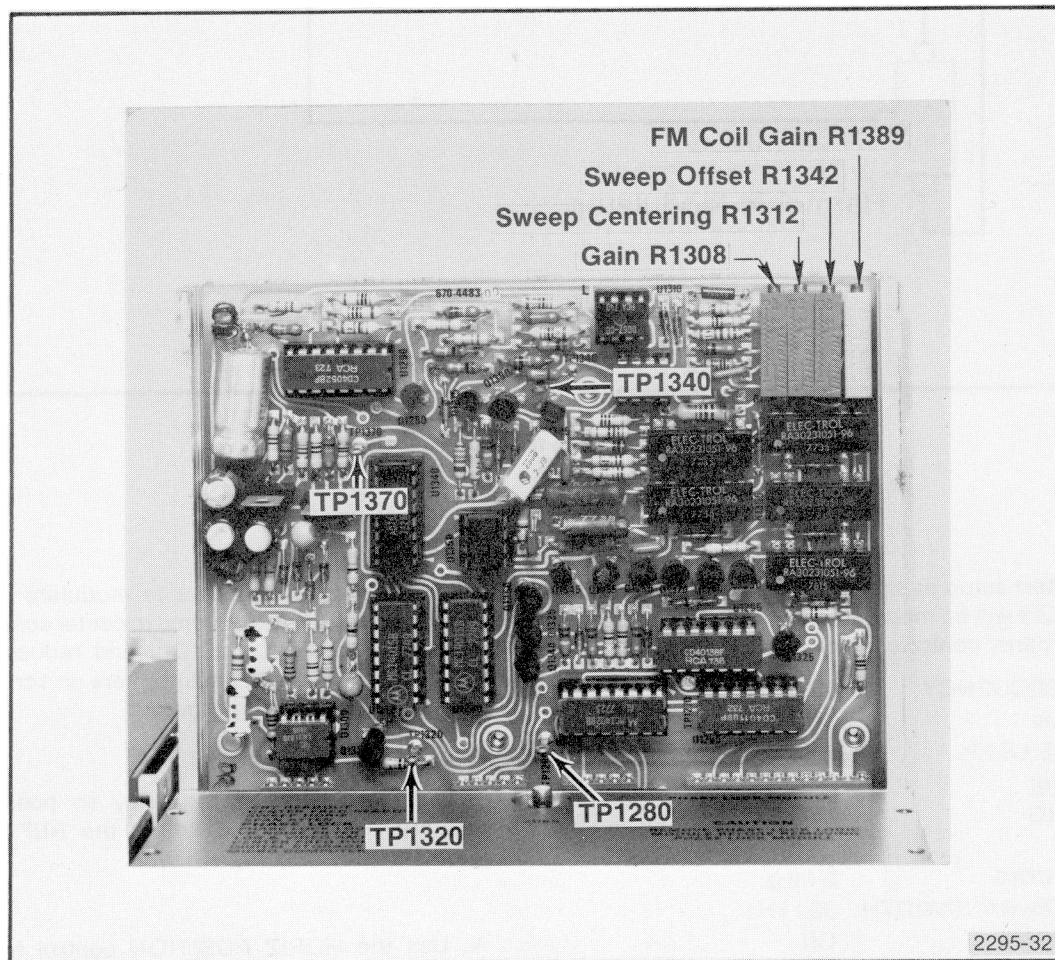
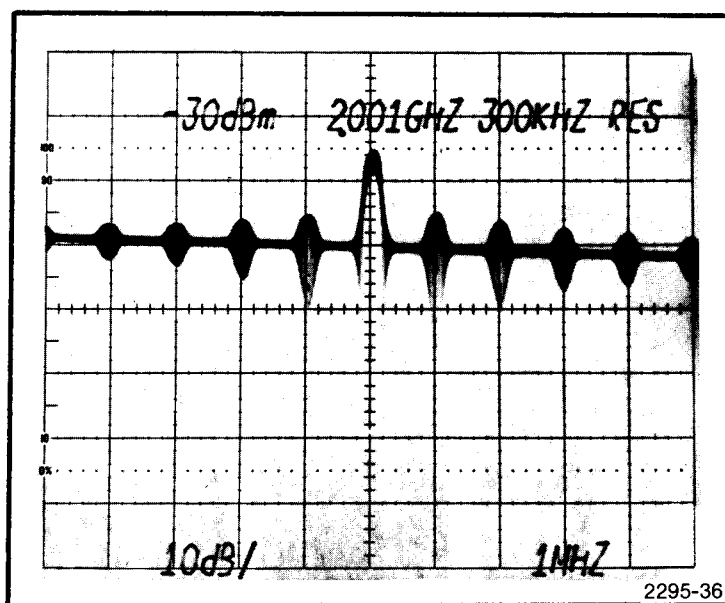

Fig. 4-24. Span Attenuator Test Points and Adjustments.
Fig. 4-28. 1 MHz Beat Notes as Seen on the Display for Calibrating the 1st LO FM Coil Drive.
c. Connect the test oscilloscope probe to Zero Center Sweep, TP1340 (see Fig. 4-24). Set test oscilloscope Time/Div control to 10 ms.
e. Set the FREQ SPAN/DIV to 0 and connect the test oscilloscope probe to TP1370 (see Fig. 4-24).
c. Tune the CENTER FREQUENCY to keep the beat nodes aligned with the graticule lines while the FM Coil Gain, R1389, (see Fig. 4-24) is adjusted for one marker/div (see Fig. 4-28).